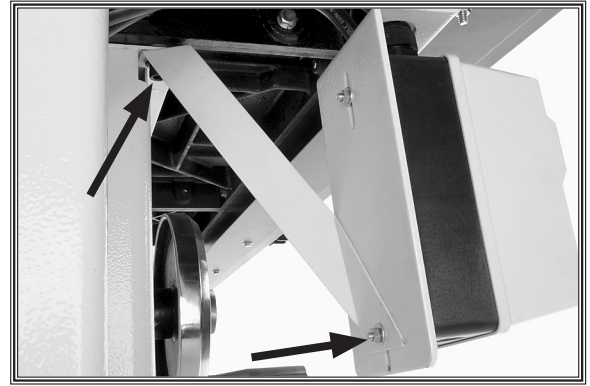

Figure 21. Switch brace installed.
5. Mount the switch brace, as shown in **Figure 21**, using the table mounting fasteners on the top end and the switch mounting fasteners on the bottom end.